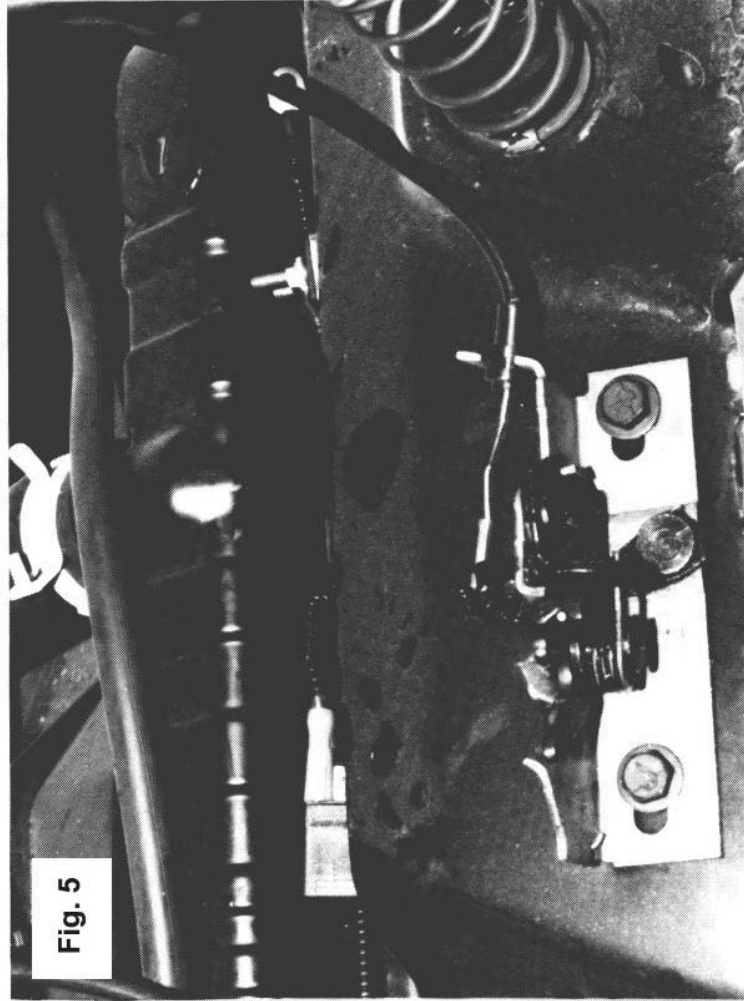

Fig. 5
- 8) Mount circuit breaker & relay on radiator support behind hood latch as shown in fig. 5.